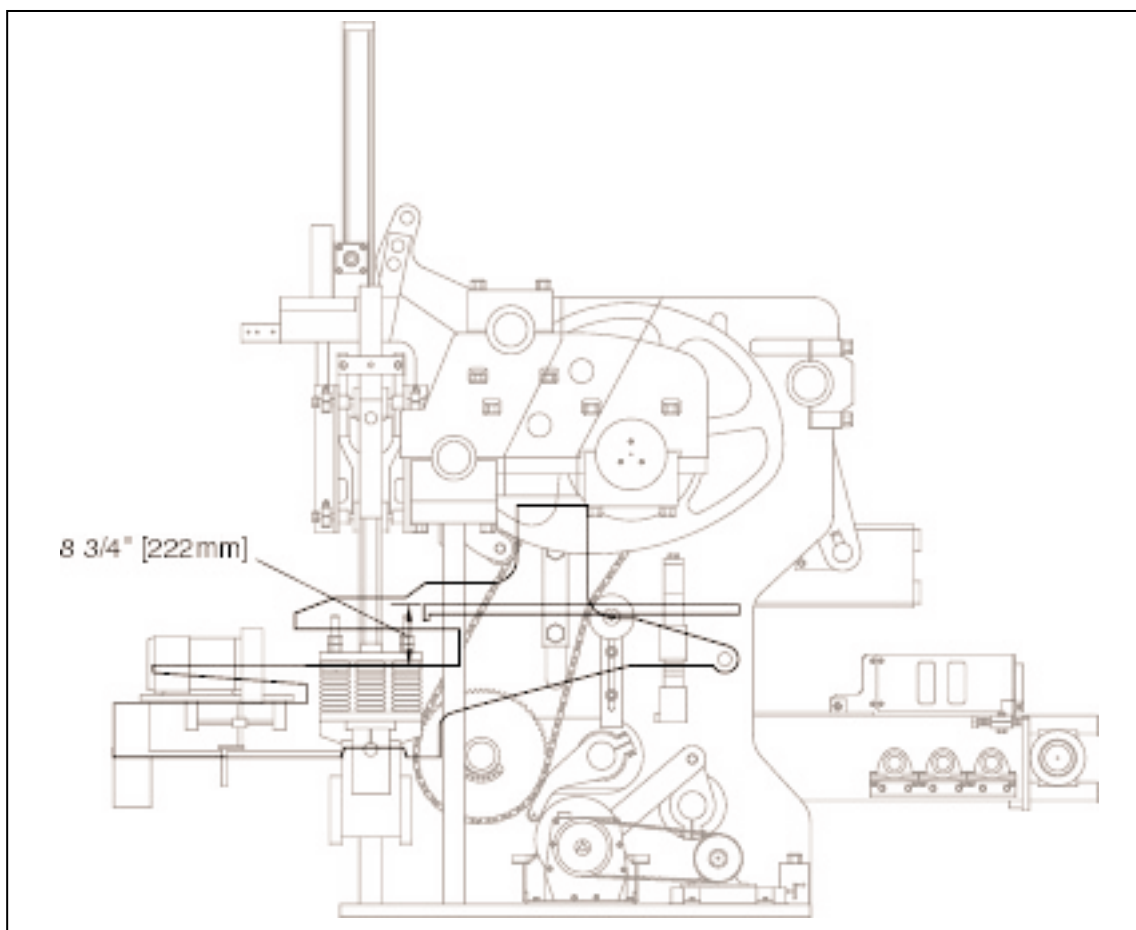

Figure 4.58 APRON PLATE ABOVE MOLD THROAT ADJUSTMENT.
4.4.3 Reconnect autofeed linkage and adjust so that the top of the apron plate is **222mm [8 1/4"]** above the mold throat at the lowest position of the autofeed (see figure 4.58). To adjust, lower or raise the autofeed until apron plate is in correct position.